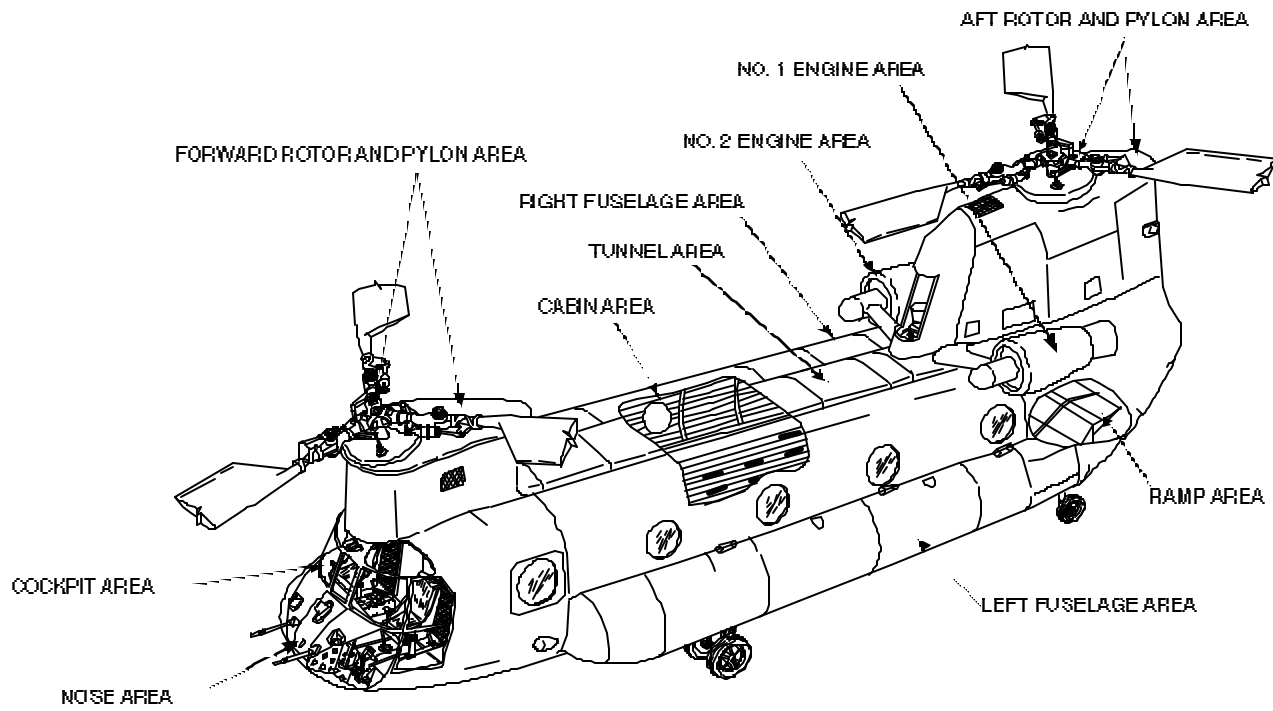

Figure 1. Area Diagram
**a.** The inspection requirements contained herein are stated in such a manner as to establish what equipment is to be inspected and the conditions to be sought. Compliance with the provisions outlined herein is required in order to assure that latent defects are discovered and corrected before malfunctioning or serious trouble results. In order to arrange inspection requirements as nearly as possible according to the manner in which work will be accomplished, the requirements in each area are divided into groups under area headings (See Figure 1). An area title indicates a specific aircraft location, which may be comprised of several systems or groups of related components within this given area.